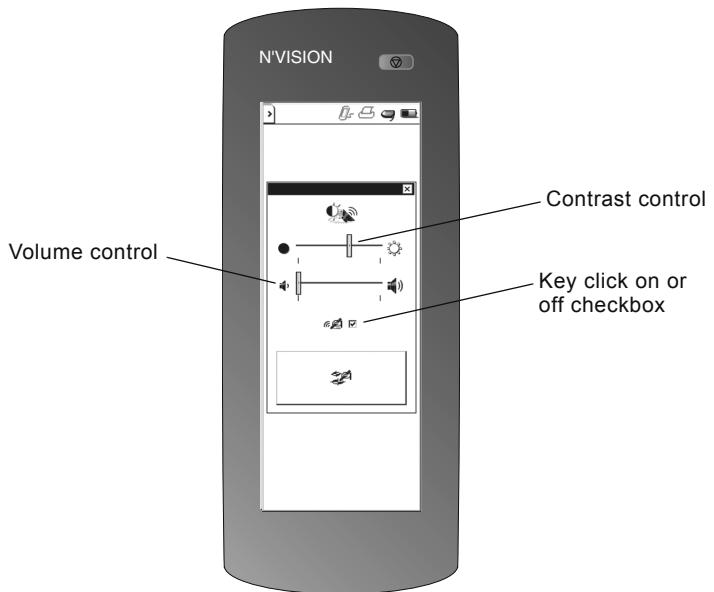

Figure 32. Programmer settings screen
3. Slide the contrast control bar to desired setting (Figure 32).
3. Slide the speaker volume control bar to desired setting (Figure 32).
3. Select the Key click on or off checkbox (Figure 32).